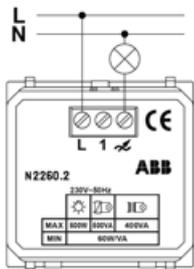
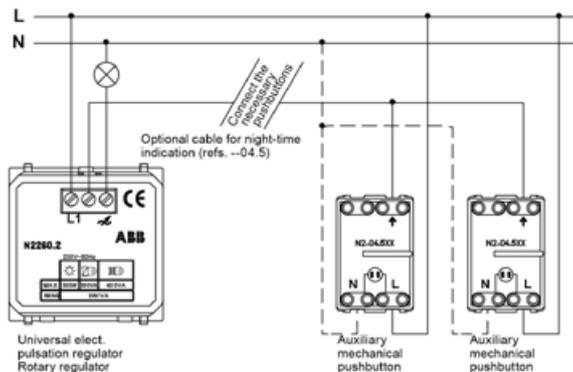

Figure 1: Basic wiring diagram
Figure 2: Special wiring diagram
The electrical wiring for these devices is performed according to the wiring diagram shown in Figure 1.
The terminal indicated with \oplus represents the conductor wiring terminal returning from the load, which is also connected to the neutral conductor of the installation. See Figure 1.
The terminal marked "1" is used to exercise control from several points by means of conventional push buttons. See Figure 2.
If the device is installed individually, follow the instructions indicated in Figure 1.
See Figure 2.
1. Connect the device based on the corresponding wiring scheme. See Figure 1 and Figure 2.